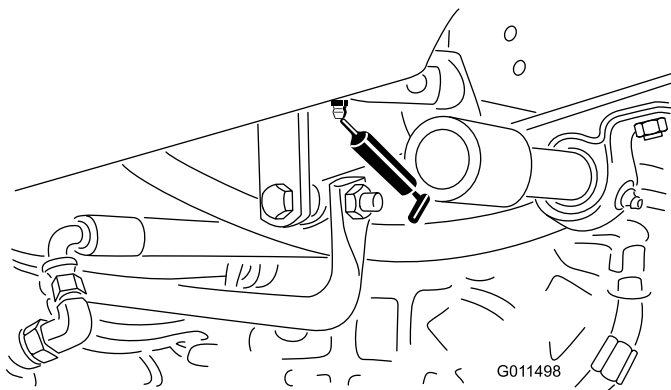

Figure 38
- Traction pedal pivot bushing (1) (Figure 38)